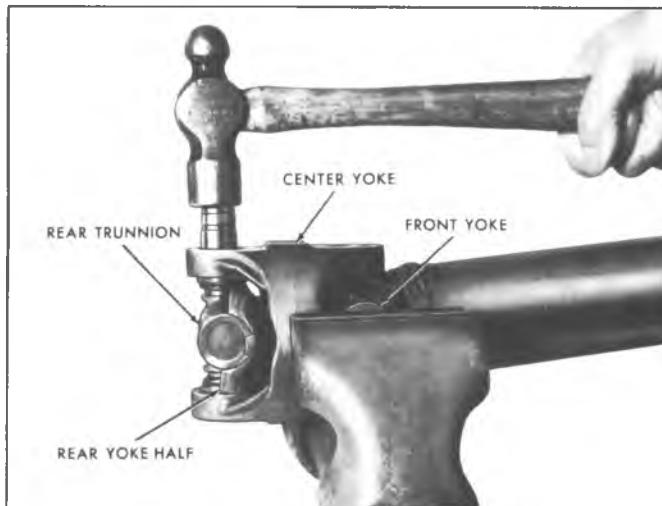

Fig. 30—Driving Out Bearing Cups
Four wheel drive models use a front propeller shaft incorporating a constant velocity joint, shown in figure 30.
3. Place propeller shaft in vice as shown in figure 30. Drive one rear trunnion bearing cap from center yoke as shown in figure 30 until it protrudes approximately  $3/8"$ .